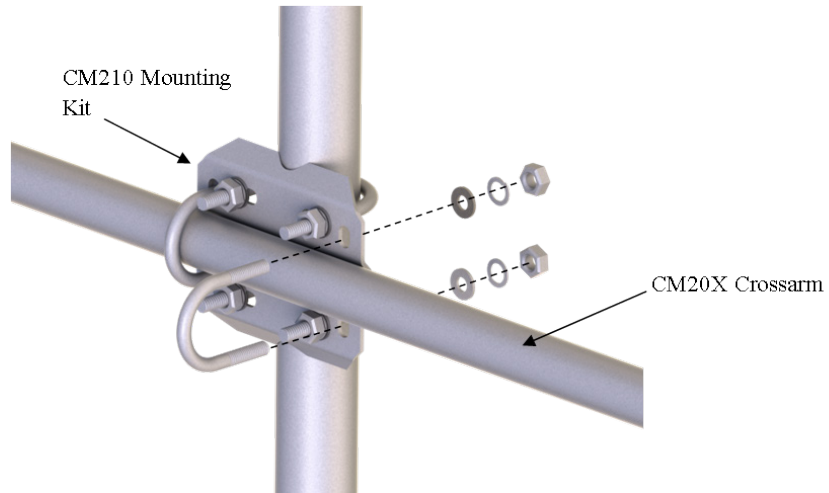

FIGURE 7-3. CM210 mounting kit with CM20X crossarm
1. Secure the chosen crossarm to a tripod or other vertical structure using a CM210 crossarm-to-pole mounting kit (pn 17767) as shown in FIGURE 7-3.